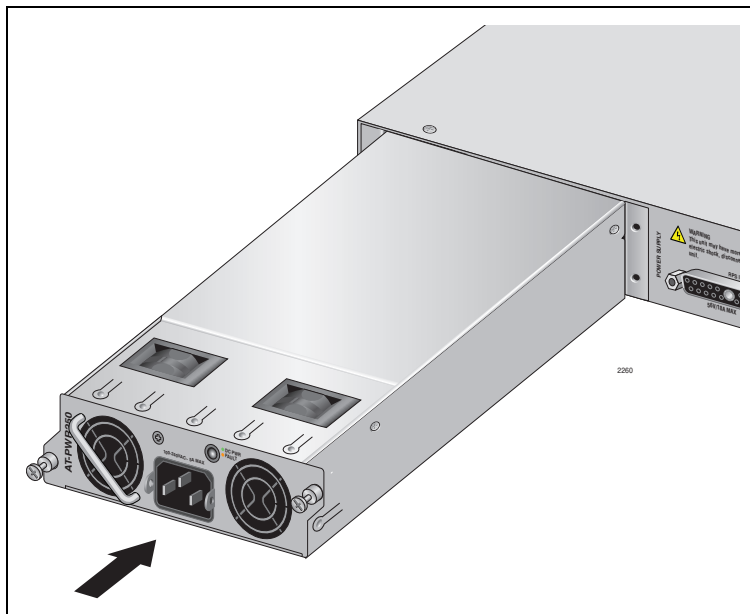
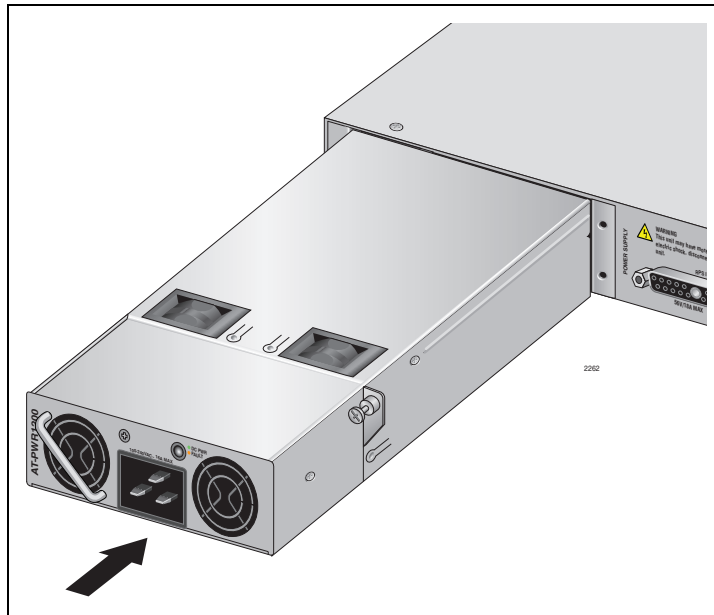

Figure 48. Installing the AT-PWR250 AC Power Supply Module
Figure 51. Installing the AT-PWR1200 Power Supply Module
3. Align the edges of power supply module with the guides in the slot and carefully slide the module into the chassis until it is flush with the rear panel of the chassis, as shown in Figure 48 through Figure 51. Light pressure may be needed to seat the module on the connector on the rear panel of the chassis.